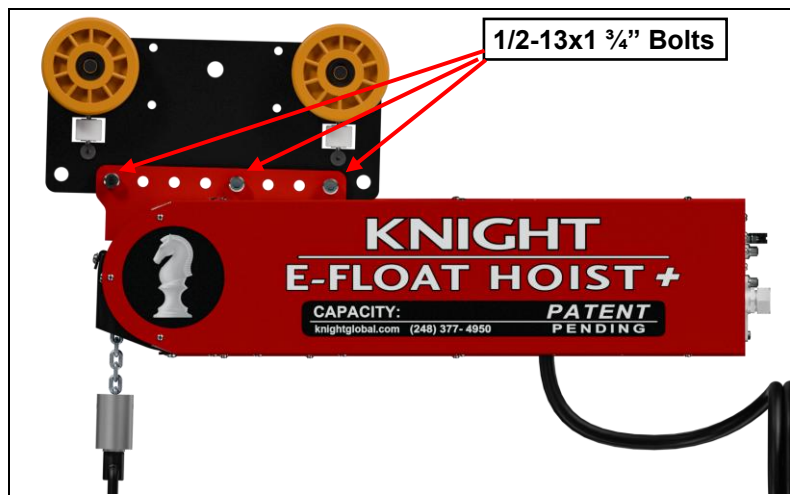

Figure 2-2 Without 19-Pin Bracket
- 2) Insert the (3) three ½-13x1½ " (grade 8 or better) socket head cap screws (SHCS), (3) three ½" Nylock nuts and (3) three washers. (See figure 2-2)